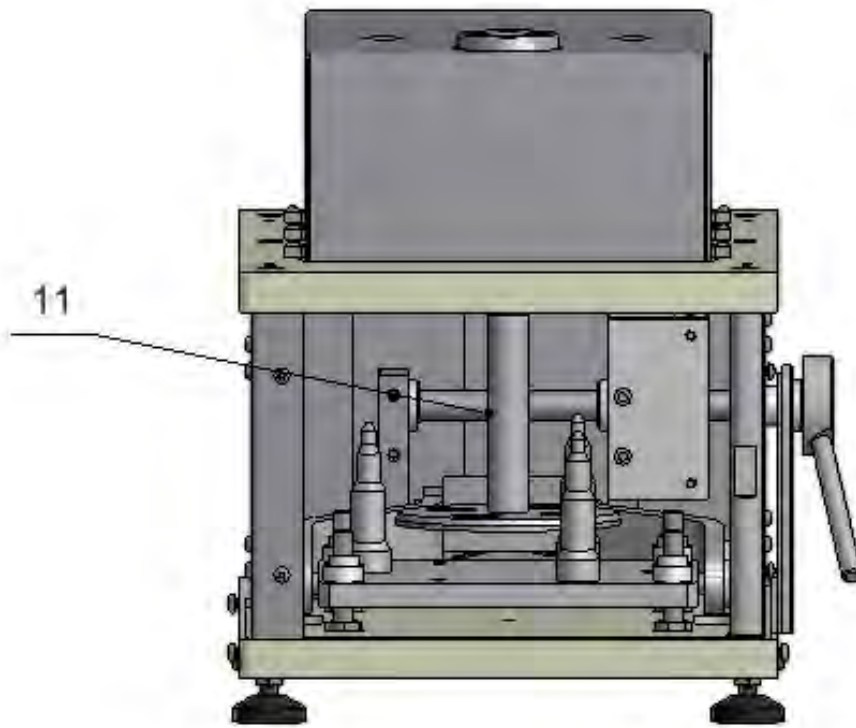

Fig. 3
6. Using wrench, undo bottom pan connector (11) (Fig. 3) .